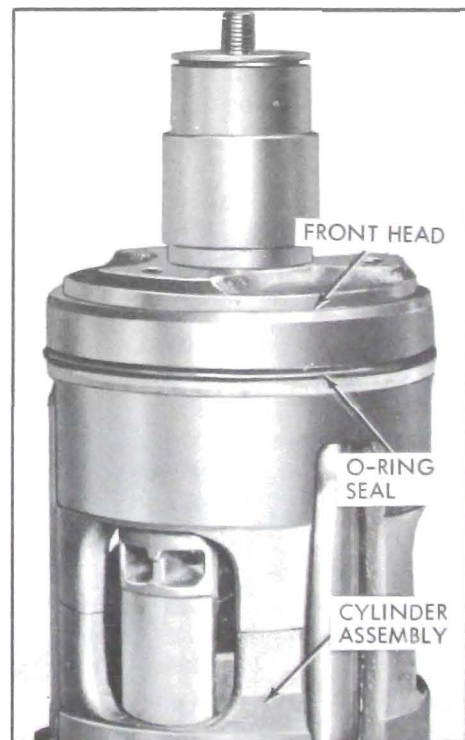

Figure 11-92—Cylinder and Front Head Assembly
7. Install a new head to shell O-ring on shoulder at rear of front head. See Figure 11-92.